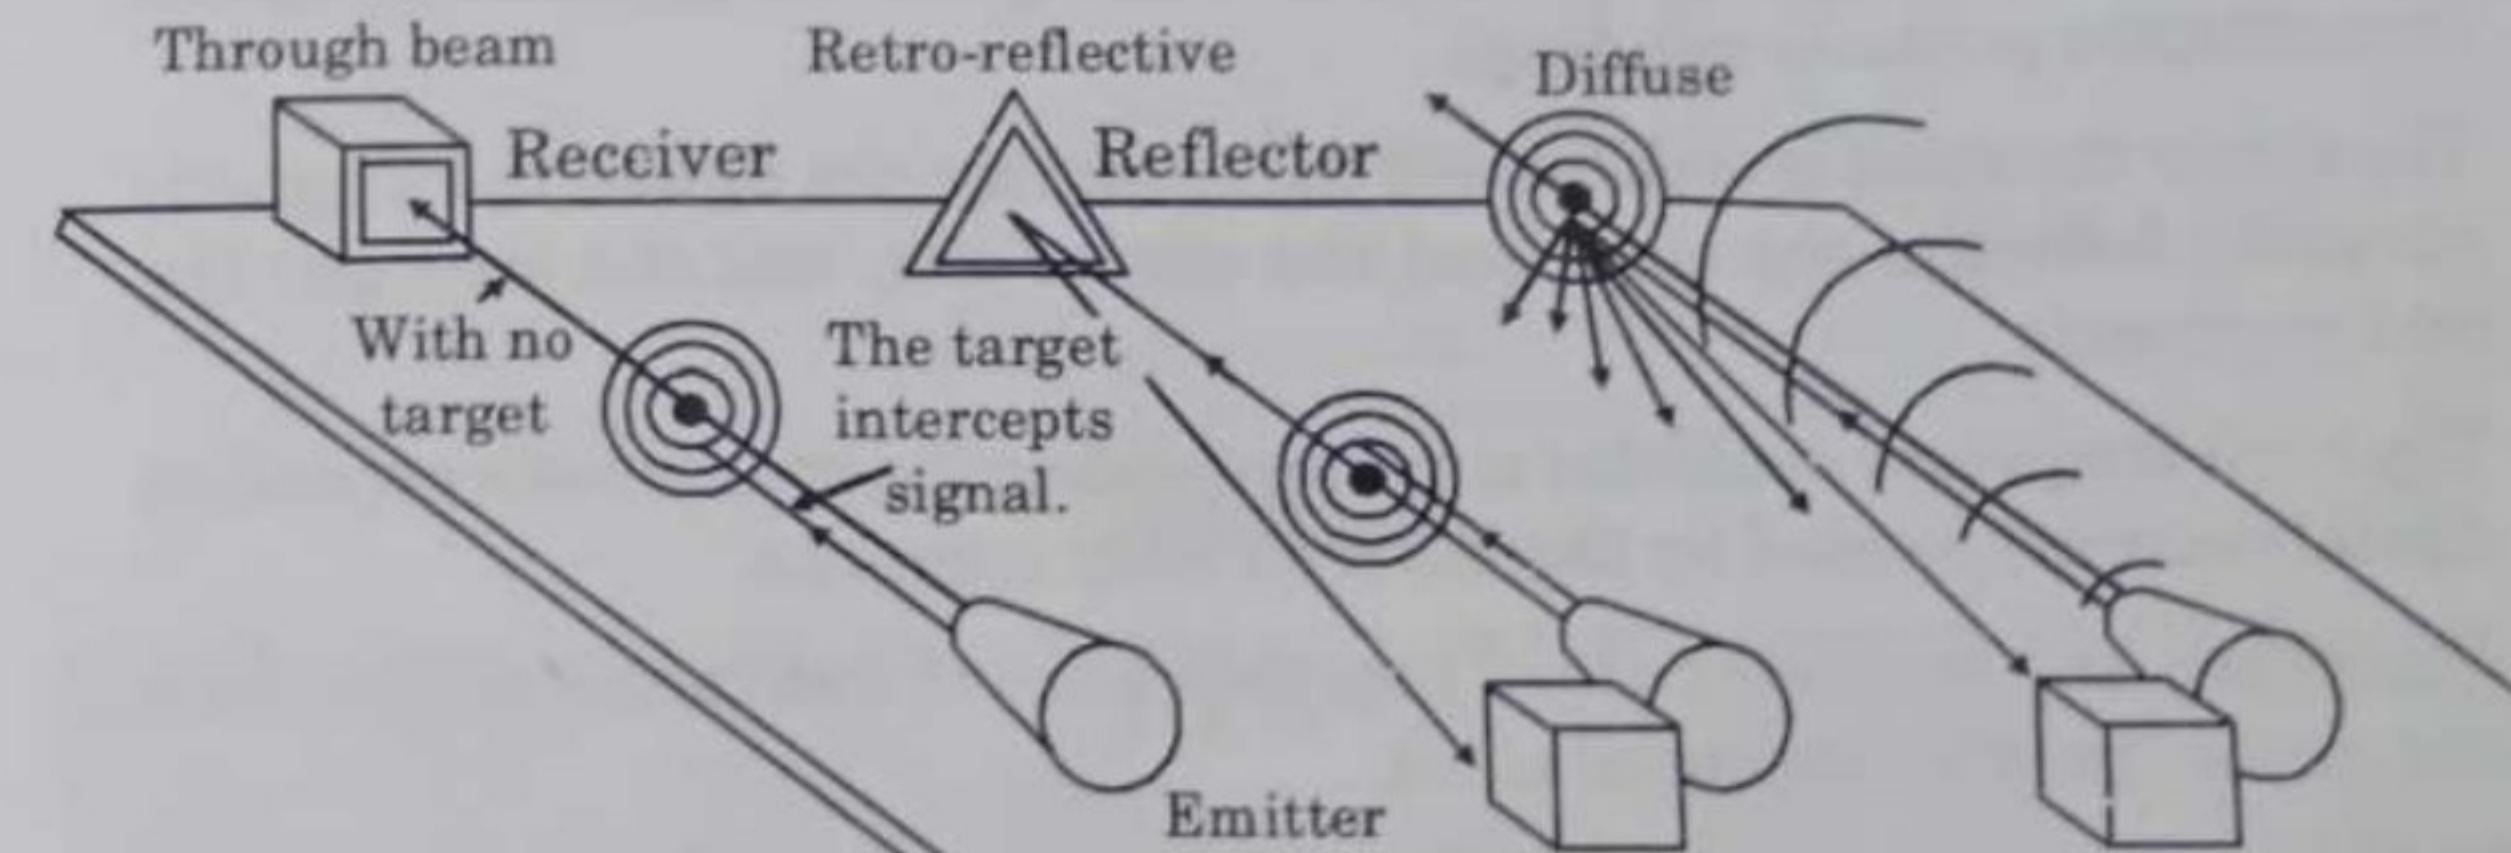

Fig. 2.14.1.
2. Three types of photoelectric sensors are available. These are classified by the method in which light is emitted and delivered to the receiver as shown in Fig. 2.14.1.